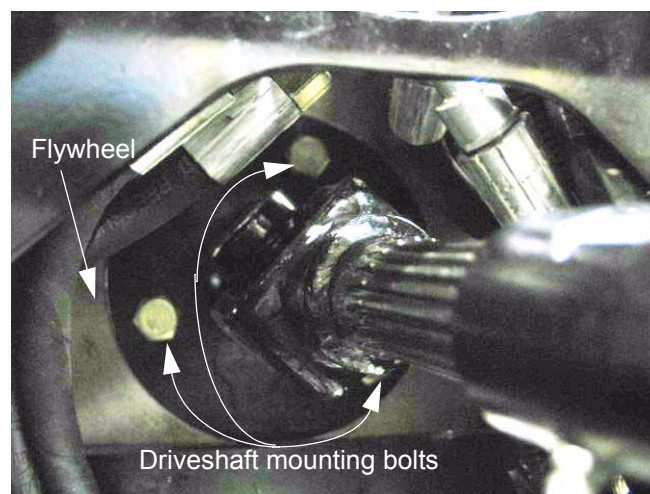

Figure 2.2
- 2.2. Remove the three bolts that fasten the drive flange at the front of the driveshaft to the flywheel, using a 16 mm wrench and a long extension. See Figure 2.2.